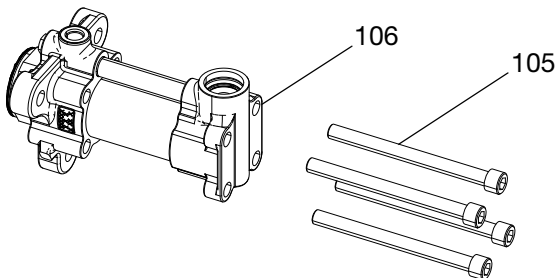

FIG. 12
6. Completely remove the tie bolts (105). See FIG. 12.